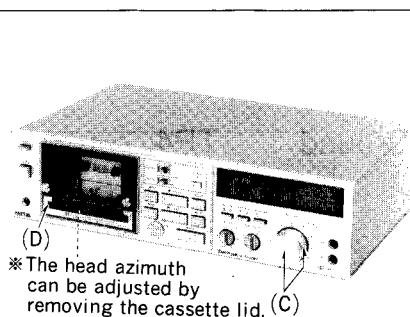
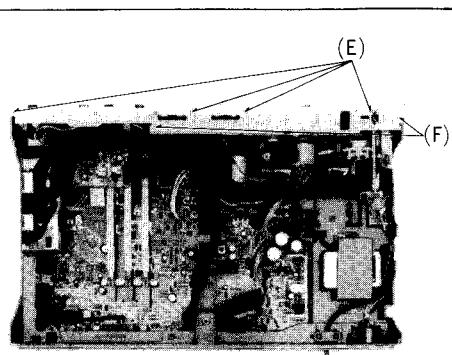
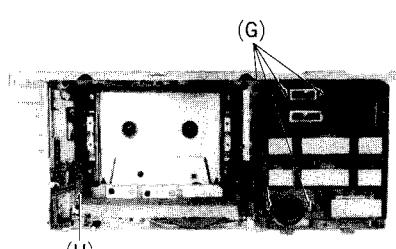
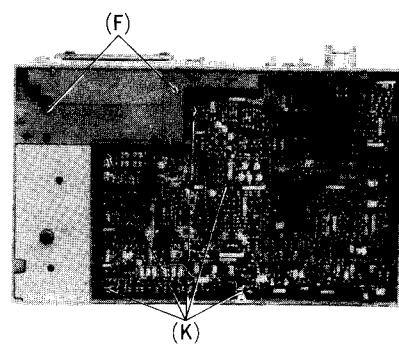

Fig. 2
Fig. 3
Fig. 4
Fig. 6
A Head azimuth adjustment Condition: * Playback mode Equipment: * VTVM * Oscilloscope * Test tape (azimuth) ... QZZCFM * Tape path viewer ... QZZCRD	<p>Record/playback head adjustment</p> <ol style="list-style-type: none"> <li>1. Test equipment connection is shown in fig. 2.</li> <li>2. Playback azimuth tape (QZZCFM 8kHz).</li> <li>3. Adjust record/playback head angle adjustment screw (B) in fig. 3 so that output level at LINE OUT becomes maximum.</li> <li>4. Measure both channels, and adjust levels for equal output.</li> <li>5. After adjustment lock head adjustment screw with lacquer.</li> </ol> <p>Erase head adjustment</p> <ol style="list-style-type: none"> <li>1. Test equipment connection is the same above but use the tape path viewer (QZZCRD) instead of test tape (QZZCFM).</li> <li>2. Playback this tape.</li> <li>3. Adjust screw (C) shown in fig. 4 so that the tape may not get curled or malformed by tape guide of the erase head.</li> <li>4. After adjustment, lock head adjust screw with lacquer.</li> </ol>  <p>Fig. 2</p>  <p>Fig. 3</p>  <p>Fig. 4</p>
C Playback frequency response Condition: * Tape selector ... Normal position * Playback mode Equipment: * VTVM * Oscilloscope * Test tape ... QZZCFM	<ol style="list-style-type: none"> <li>1. Test equipment connection is shown in fig. 2.</li> <li>2. Place UNIT into playback mode.</li> <li>3. Playback the frequency response test tape (QZZCFM).</li> <li>4. Measure output level at 12.5kHz, 8kHz, 4kHz, 1kHz, 250Hz, 125Hz and 63Hz, and compare each output level with the standard frequency 315Hz, at LINE OUT.</li> <li>5. Make measurement for both channels.</li> <li>6. Make sure that the measured value is within the range specified in the frequency response chart. (shown in fig. 6).</li> </ol>  <p>Playback frequency response chart</p> <p>Fig. 6</p>
D Playback gain Condition: * Tape selector ... Normal position * Playback mode Equipment: * VTVM * Oscilloscope * Test tape ... QZZCFM	<p>1. Test equipment connection is shown in fig. 2.      2. Playback standard recording level portion on test tape (QZZCFM 315Hz, 0 dB), and using VTVM measure the output level at LINE OUT jack.      3. Make measurement for both channels.</p> <p style="border: 1px solid black; padding: 2px; text-align: center;">Standard value: <math>0.7V \pm 1.5\text{dB}</math></p> <p>Adjustment</p> <p>1. If measured value is not within standard, adjust VR3 (L-CH), VR4 (R-CH) (shown in fig. 1).      2. After adjustment, check "Playback frequency response" again.</p>